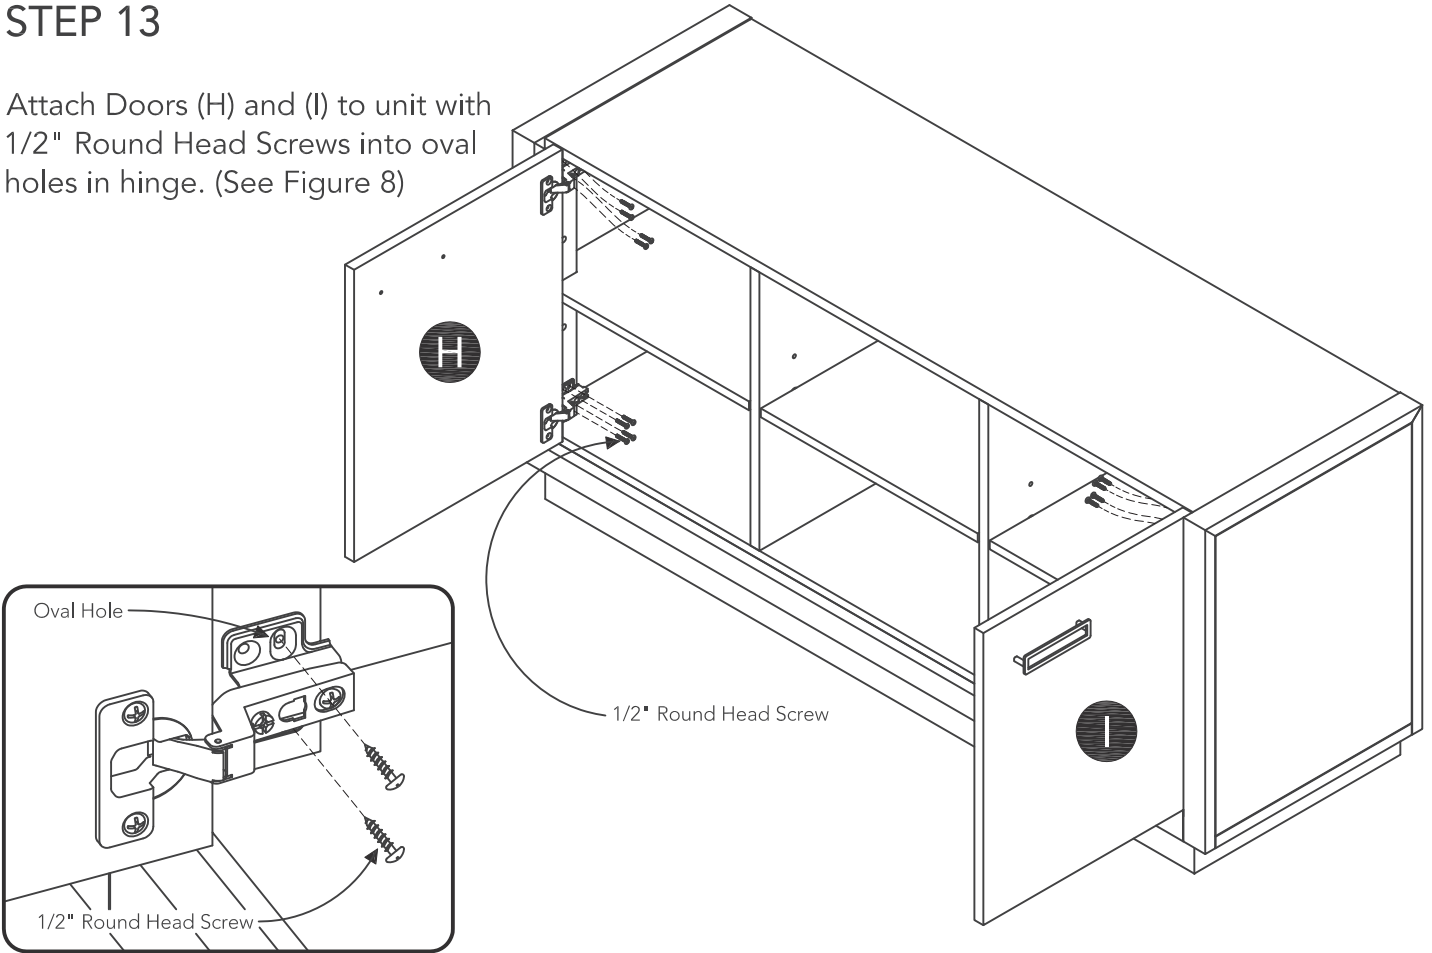

Figure 8
Attach Doors (H) and (I) to unit with 1/2" Round Head Screws into oval holes in hinge. (See Figure 8)